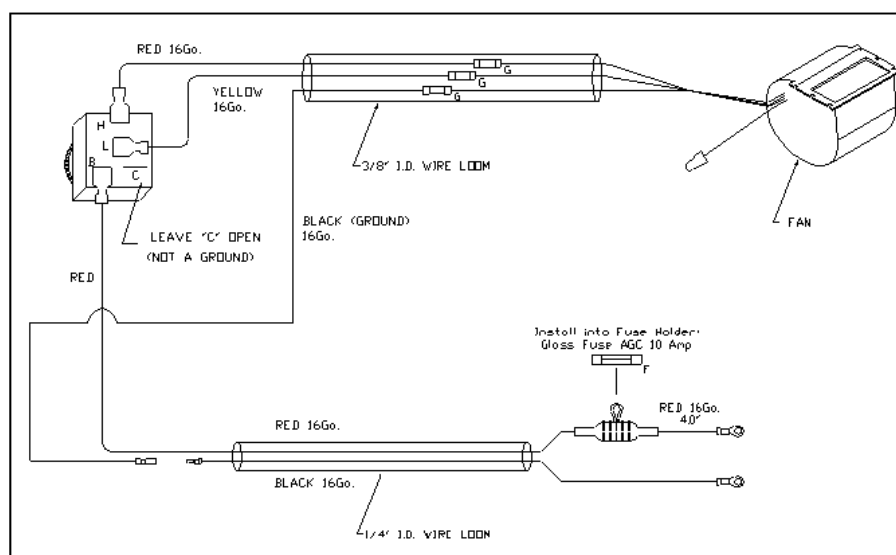

FIGURE 3.4 (Wire harness)
4. Route the harness along the driver's side round vehicle tube frame. Locate the switch and connect red wire to terminal B, per Figure 3.4
6. Connect the red wire from the fan to terminal H and the yellow to terminal L, per Figure 3.4.